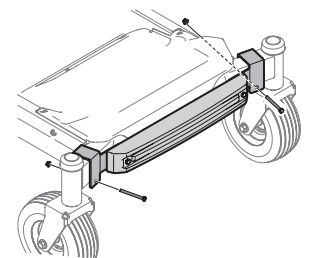

Figure 38
- Attach the weight bar assembly to the front axle with a 3-1/4" screw (710-3056) and flange nut (712-04063) from the hardware pack 689-02200 on the left side. Repeat for the right side. Do not fully tighten at this time. See Figure 38.